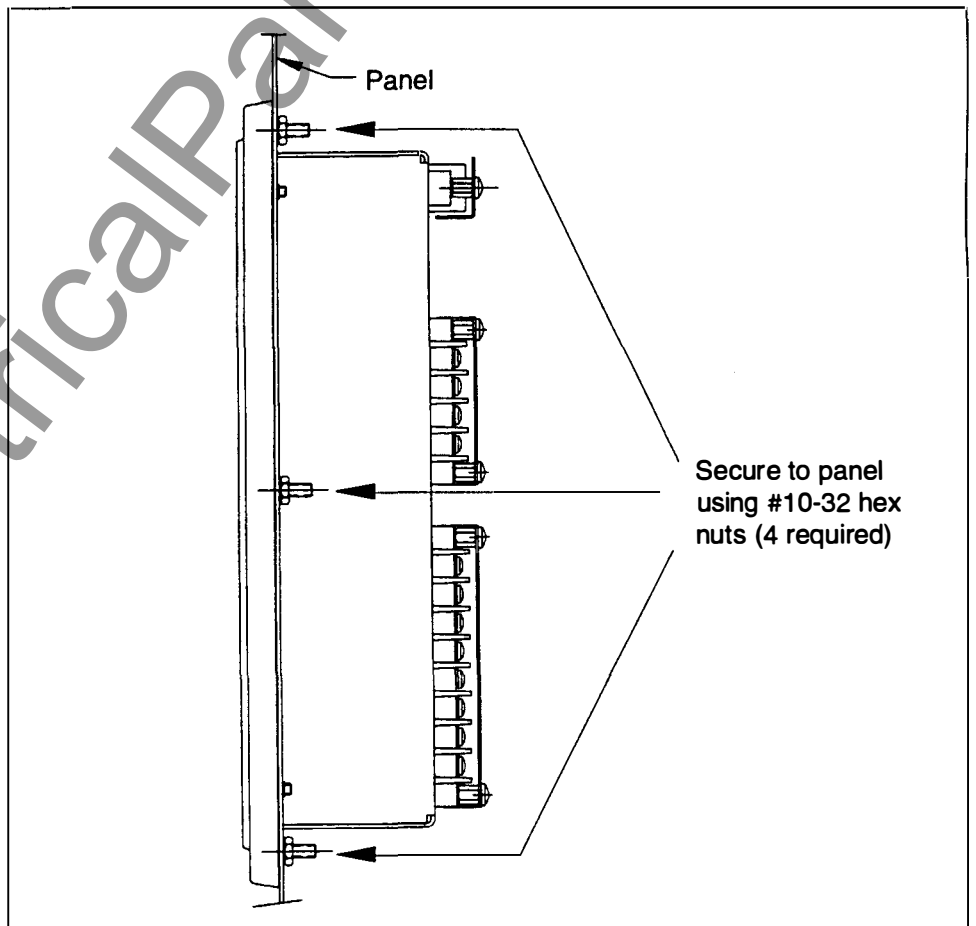

Figure 3-2: Circuit Monitor mounted in electrical panel
3. Secure the Circuit Monitor to the panel using four #10-32 hex nuts included in the Circuit Monitor hardware kit (63230-204-16). Figure 3-2 shows the Circuit Monitor mounted in an electrical panel.